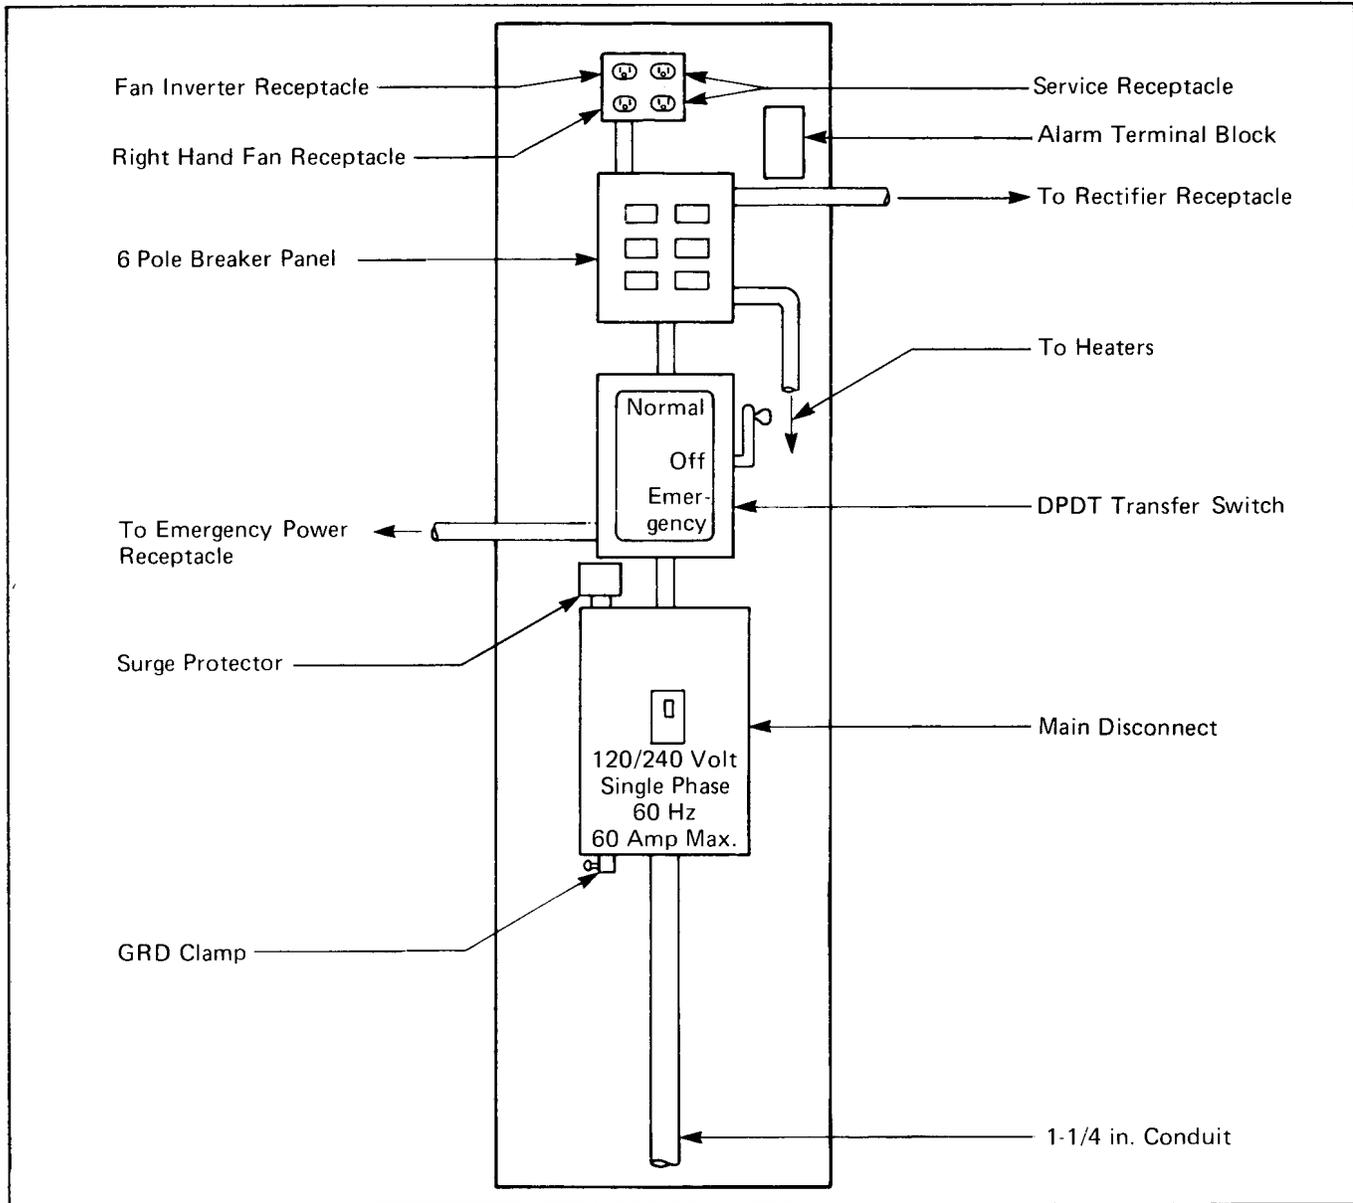

Fig. 10 - Power Distribution Panel
2.11 Primary power cabling is routed through 1-1/4 inch conduit, located in the bottom of the cabinet, to a power distribution panel mounted on the back wall of the equipment compartment between the two bay frames. This panel consists of the components shown in Fig. 10. Current and fusing requirements are detailed in 363-2011-150, Table A.